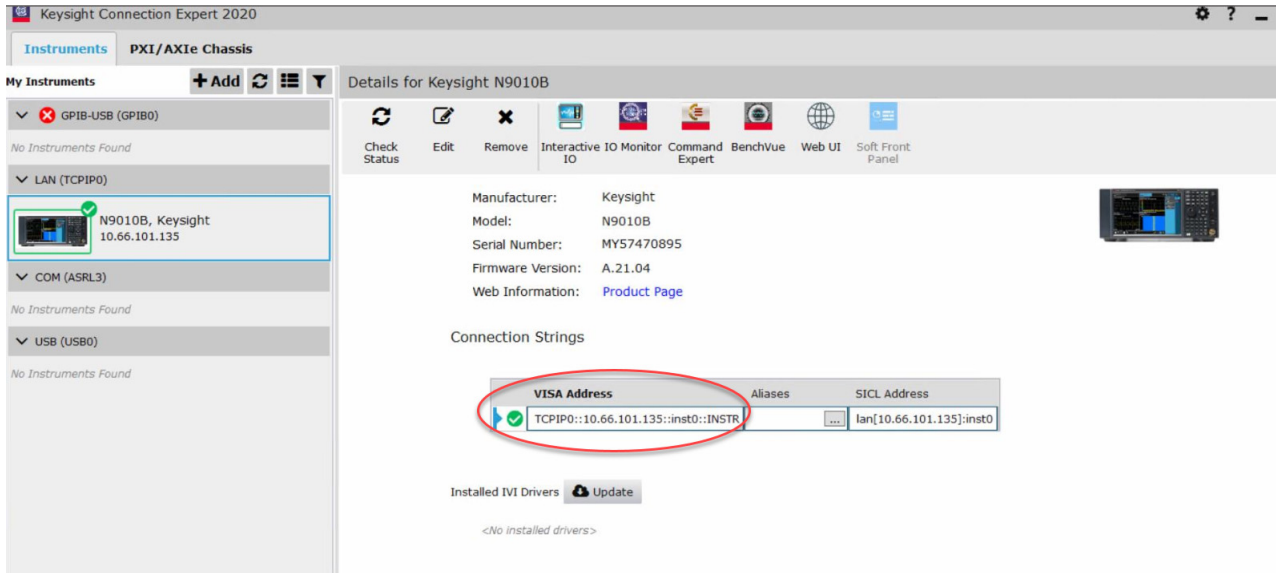

Figure 17 Checking VISA/SICL address for Spectrum Analyzer in the Keysight Connection Expert
- 11 A pop-up box appears where you can enter either the VISA/SICL address or the IP address. Enter the information and click the **Verify** button, followed by the **Done** button to close this box. The VISA/SICL address or the IP address can be obtained from the Keysight Connection Expert application, as shown in Figure 17.